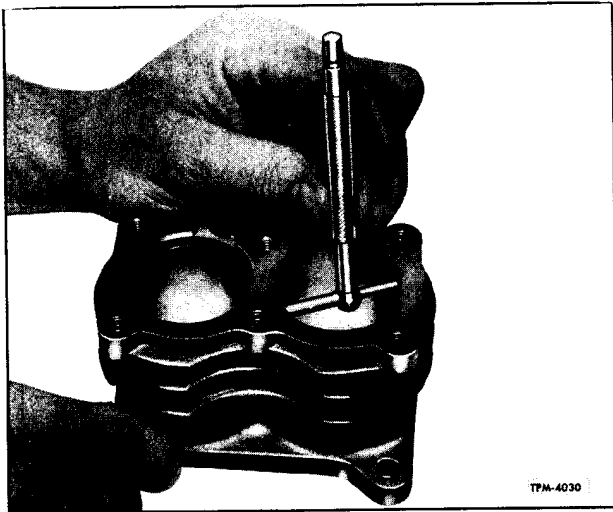

Figure 9—Measuring Cylinder Bore Diameter
7. Cylinder Block (Fig. 9). Use telescoping gauge to check bores for out-of-round and taper. Bores which are scored or out-of-round more than 0.002" or tapered more than 0.003" must be re-bored, honed, or ground oversize. Pistons and rings 0.010", 0.020", and 0.030" oversize are available. Cylinder bores must be smooth, straight, and round and must be finished with a 500 (or finer) grit hone. The clearance between piston and cylinder wall must not be less than 0.002" or more than 0.004". Replace cylinder block if cracked or damaged.